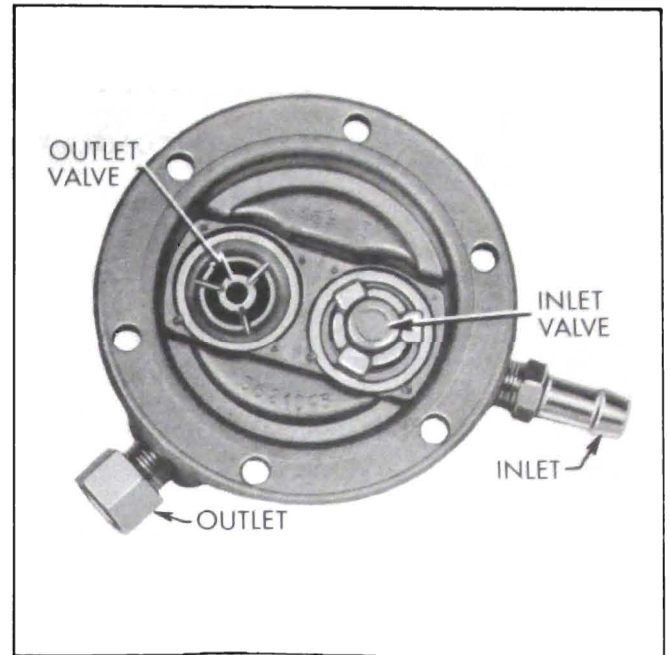

Figure 3-14—Valves in Fuel Cover
4. Place a new gasket in each valve seat in fuel cover. Place valve in seat nearest "IN" connector with spring cage facing up. Place other valve in outlet valve seat with spring cage down. See Figure 3-14.